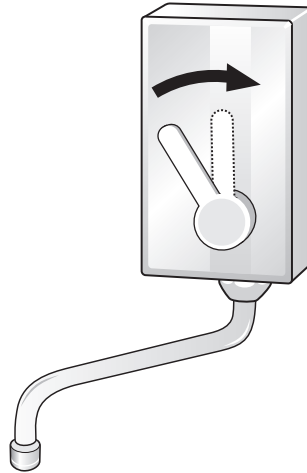

fig. 4b
- The water temperature can be decreased by mixing cold and hot water by turning the knob to the right. (fig. 4b)